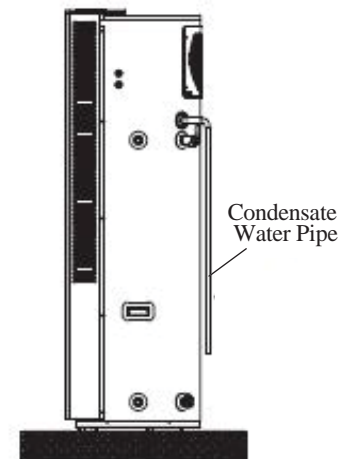

Figure 4
- The tank of the water heater shall be installed near to the power socket, sewer mouth and the area where water is needed (Figure 4).
Ensure the condensate water pipe, connected with condensate water outlet, is unobstructed and toward floor drain without bended. (Figure 4)